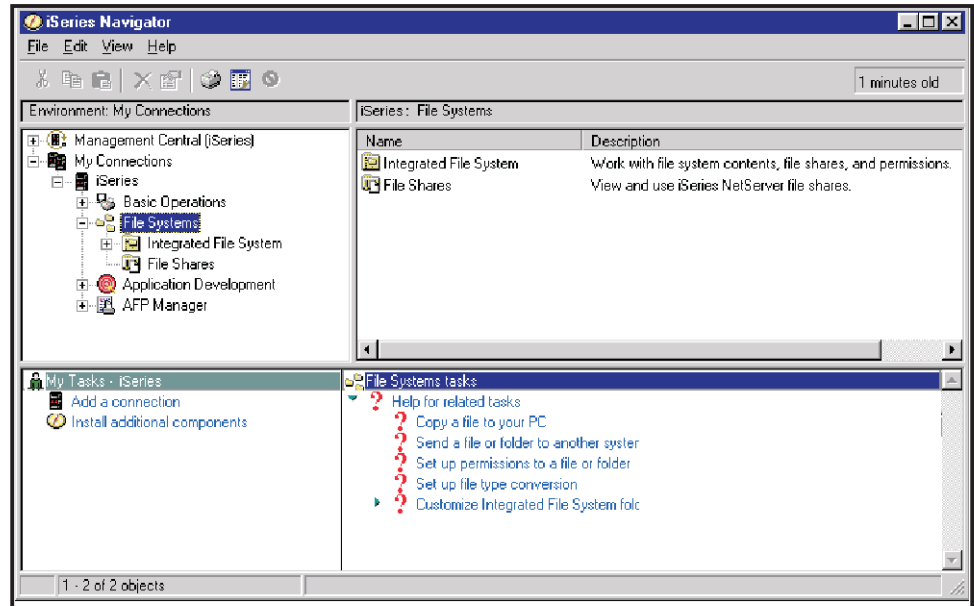

Figure 141. iSeries Navigator File Systems
4. Expand **File Systems** to display a list of all i5/OS file systems to which you are authorized, as shown in Figure 141.